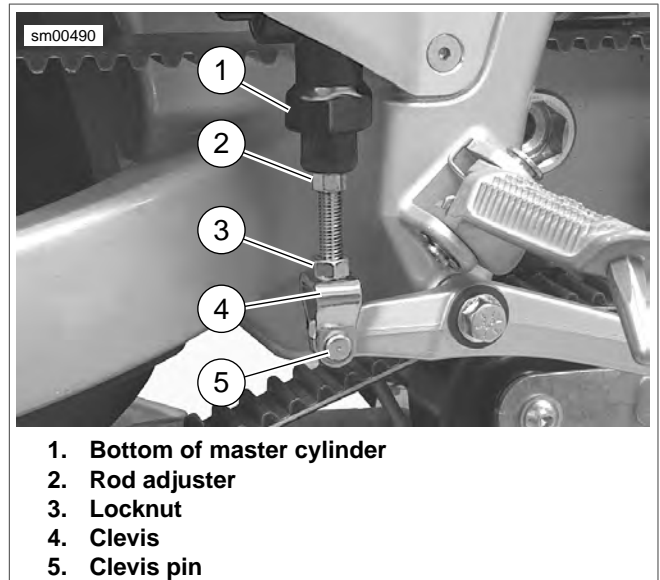

Figure 1-14. Brake Pedal Pushrod Adjustment (Typical)
1. See Figure 1-14. Inspect for minimum and maximum brake rod engagement in brake clevis (4). Adjust as required.
- a. Loosen locknut (3) while holding rod adjuster (2). Move locknut away from top surface of clevis (4).
- c. Return locknut (3) to fit flush against top surface of clevis and tighten to 130-173.5 in-lbs (14.7-19.6 Nm).